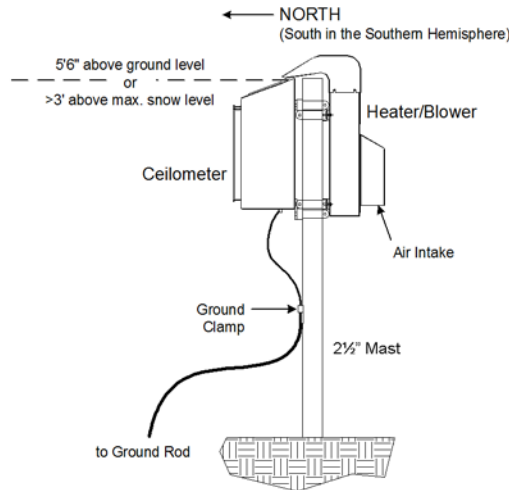

Figure 43. Ceilometer Installation
The 8339 must be firmly mounted to a vertical 2½" mast for proper operation. Any movement of the 8339 arising from wind or other causes will reduce the accuracy of the ceilometer. The ceilometer should be installed in an open area away from trees, buildings, or other obstructions. When installing the ceilometer on its pole, orient it with the windows facing toward the North (South in the Southern Hemisphere) to reduce the amount of direct sunlight on the windows (see Figure 43).
In order for the sensor's built-in lightning protection to function properly, the ceilometer must be grounded. To install grounding, follow the steps below (see Figure 43).
2. Note that the Heater/Blower installs so that its mounting brackets fit between the Ceilometer's mounting brackets (see Figure 43). That is, the Heater/Blower's top bracket installs directly **beneath** the Ceilometer's top bracket, and its bottom bracket installs directly **above** the Ceilometer's bottom bracket.